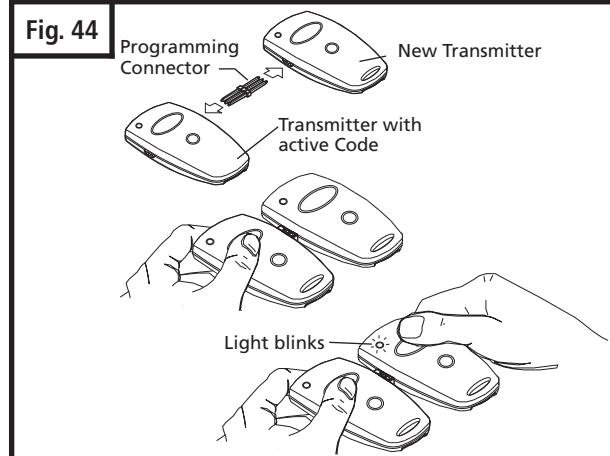

Fig. 44
MULTIPLE TRANSMITTERS (Fig. 44):
- Connect the transmitter with active code to the new transmitter using the programming connector. (Fig 44)